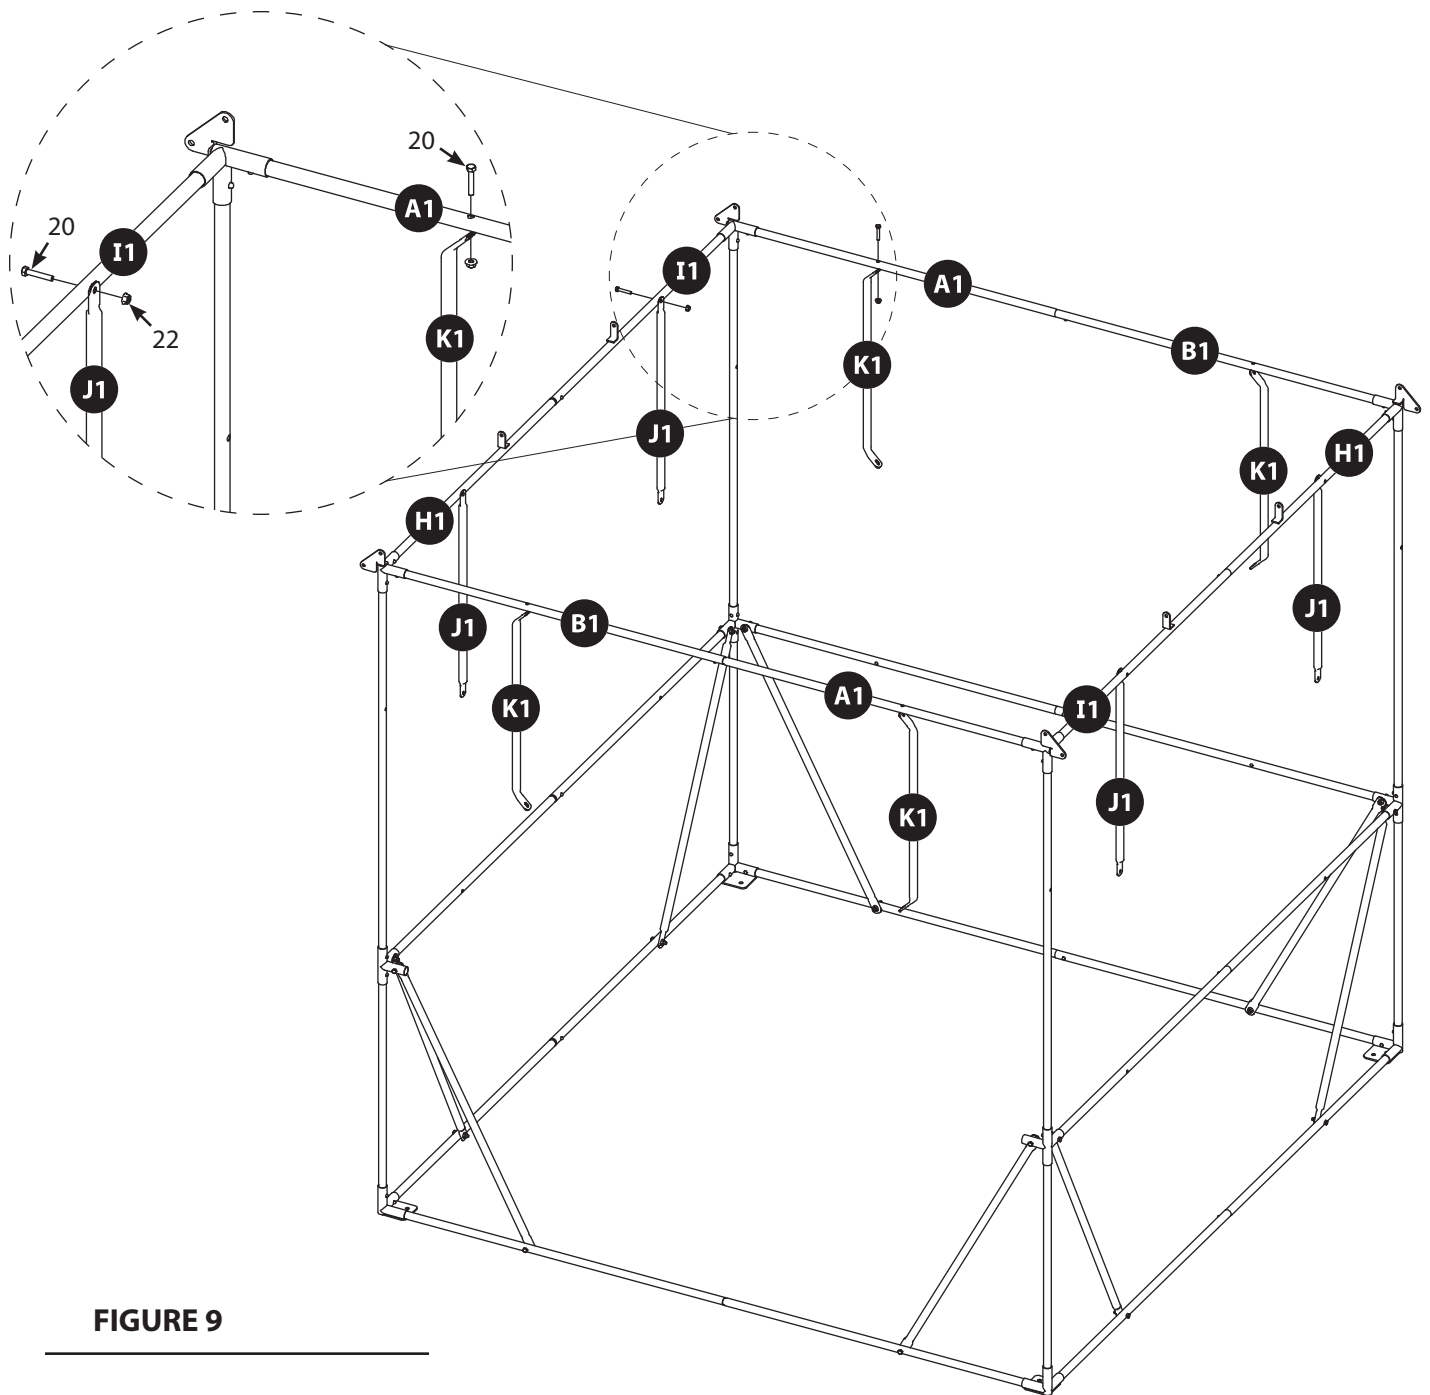

FIGURE 9
18. Attach the four J1 poles by one end to the horizontal through holes on the four assembled H1 and I1 poles using four M6 x 35mm bolts (20) and M6 nuts (22). Hand tighten only at this time. **SEE FIGURE 9.**
19. Attach the four K1 poles by the end with the hole, not the slot, to the vertical through holes on the four assembled A1 and B1 poles using four M6 x 35mm bolts (20) and M6 nuts (22). Hand tighten only at this time. **SEE FIGURE 9.**